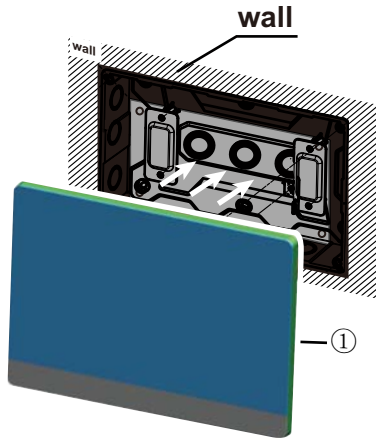

Fig. 7 — Installing the Controller
- a. After wiring, install the controller (1) onto the mounting plate.
- See Figure 7.